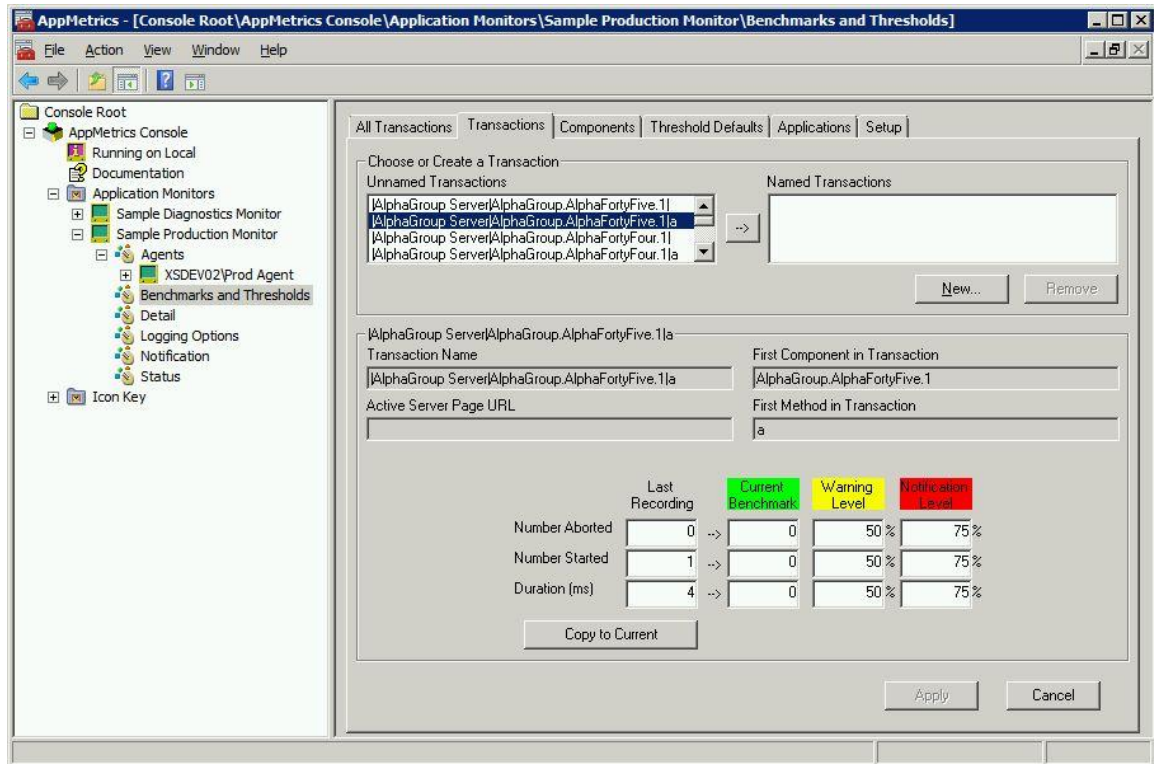

Figure 3-24 Transactions Configuration View
1. Beneath the **Named Transactions** list on the **Transactions Configuration View** (Figure 3-24), click **New**.